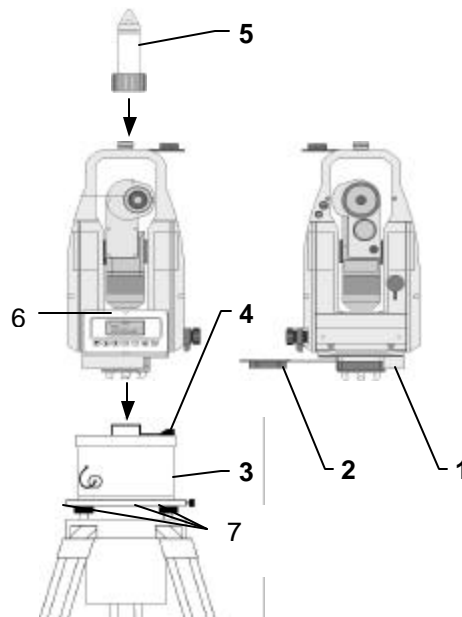

Figure 2-3. Mounting the Digital Electronic Theodolite
- Using the “LEFT THUMB RULE FOR LEVELING”, CENTER BUBBLE in circular leveling vial (6) on the theodolite using leveling screws (7) on the tripod (Figure 2-3).